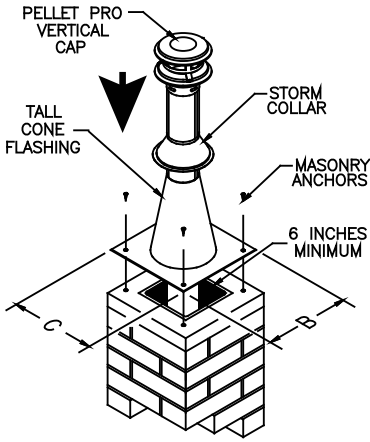
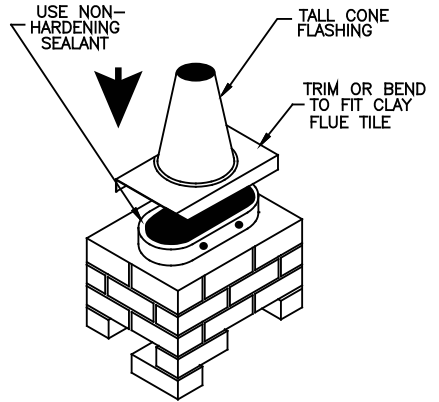

Figure 23
Figure 25
11. For support at the termination of the PelletVent, use a Tall Cone Flashing, and a Storm Collar. This will require 14 inches of pipe above the top of the masonry chimney. Pull the pipe up through the flashing to the desired height. Mark location of the Storm Collar. Slip the Storm Collar down over the pipe and affix it to the pipe with a 1/4"-long stainless steel sheet metal screw **(Figures 23 & 24)**. The Storm Collar will then support the entire vent system. Install the Cap. Seal the joint at the Storm Collar, and any other joints or seams which may appear suspect. **(Figure 25)** shows a Tall Cone Flashing modified to fit a chimney where the tile liner protrudes above the masonry, as another alternate termination technique. This completes the masonry